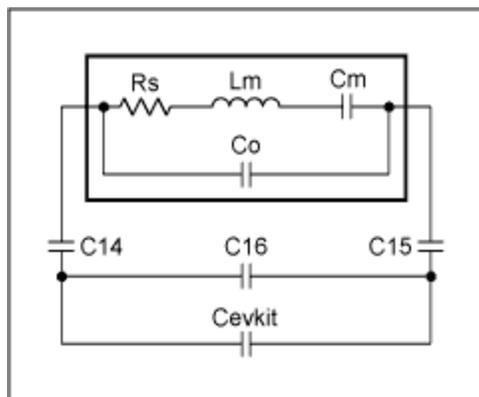

Figure 3. EVKit equivalent circuit.
**Figure 3** shows the crystal within the MAX1470EVKit circuit. In this circuit, C14 and C15 are series pulling capacitors, while C16 is a parallel pulling capacitor. Cevkit is the equivalent MAX1470, plus the evkit PCB stray capacitance. Cevkit is approximately 5pF.